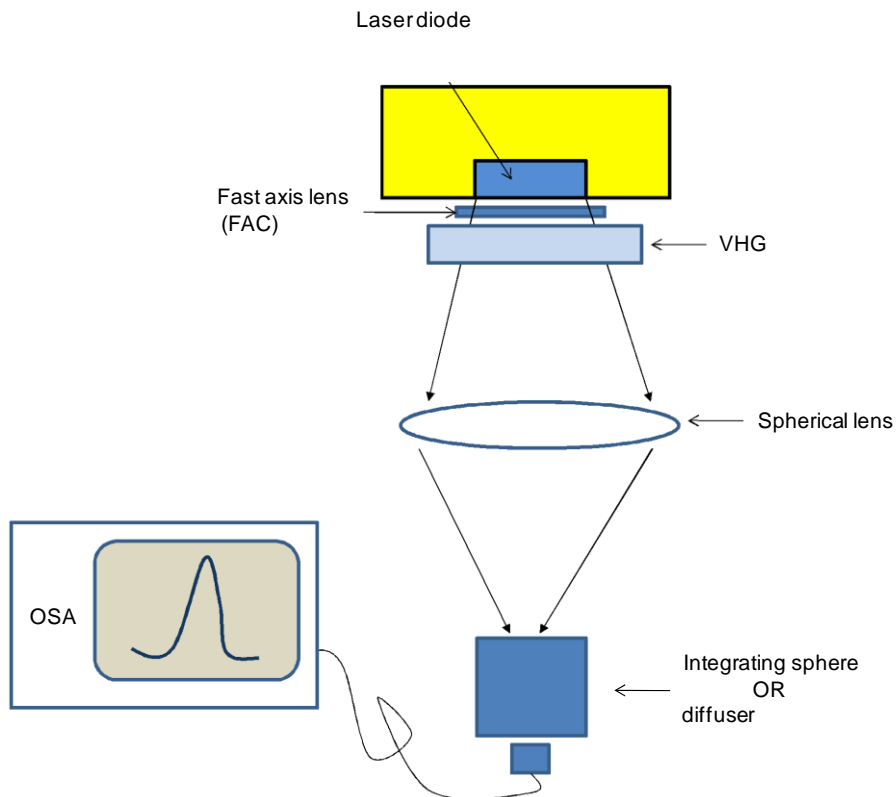

Figure 3: Top view: Laser Diode Collimated with Fast Axis Lens
The slow axis is freely diverging as figure 3 illustrates. A spherical lens is used to capture the light from all the emitters to direct it inside an integrating sphere or on the surface of a diffuser. The fiber from an Optical Spectrum Analyzer collects the light from all emitters.
- Referring to figure 3, adjust the long facet of the VHG to be approximately parallel to the long side of the lens.